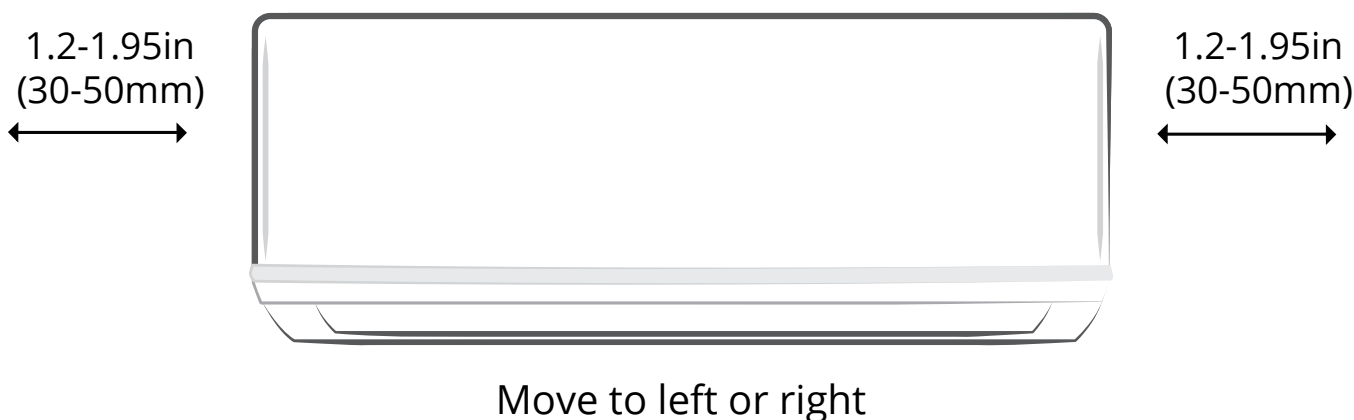

**Fig. 3.9**
2. Use a bracket or wedge to prop up the unit, giving you enough room to connect the refrigerant piping, signal cable, and drain hose. Refer to **Fig. 3.9** for an example.